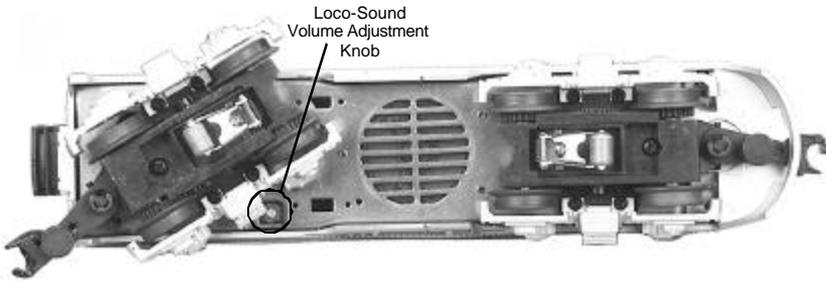

Figure 5. Location of the Loco-Sound Volume Adjustment Knob
Volume Control – To adjust the volume of all sounds made by this engine, turn the master volume control knob located under the engine clockwise to increase the volume and counter-clockwise to decrease the volume (see Fig. 5).
1. Remove the four Phillips screws from the chassis, as seen in Figure 5, then lift the body away from the chassis.
2. Remove the truck blocks from the chassis by unscrewing the large Phillips motor mount screw on the bottom of each truck block, as shown in Figure 5.